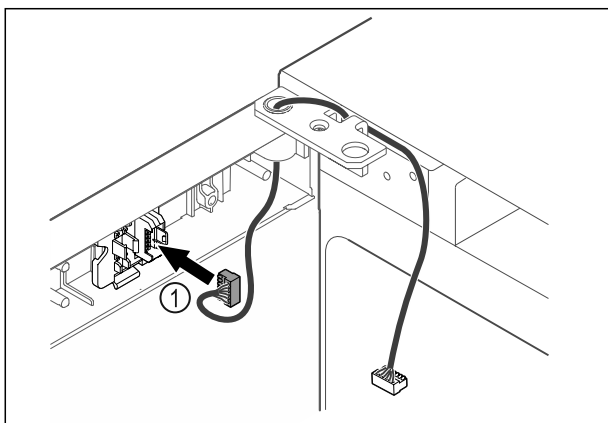

Fig. 43
- ▶ Put the plug Fig. 43 (1) in the plug holder.